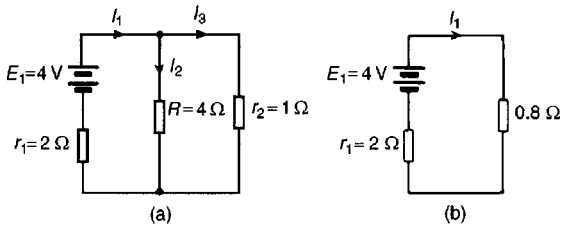
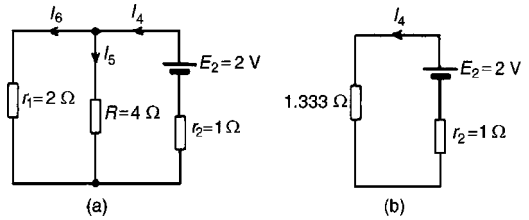
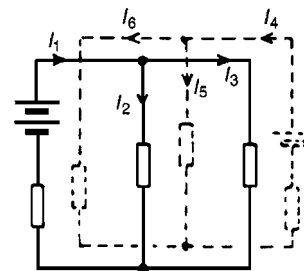

Figure 13.17
Figure 13.18
Figure 13.19
1. Redraw the original circuit with source  $E_2$  removed, being replaced by  $r_2$  only, as shown in Fig. 13.17(a)
2. Label the currents in each branch and their directions as shown in Fig. 13.17(a) and determine their values. (Note that the choice of current directions depends on the battery polarity, which, by convention is taken as flowing from the positive battery terminal as shown)
From the equivalent circuit of Fig. 13.17(b),
3. Redraw the original circuit with source  $E_1$  removed, being replaced by  $r_1$  only, as shown in Fig. 13.18(a)
4. Label the currents in each branch and their directions as shown in Fig. 13.18(a) and determine their values.
From the equivalent circuit of Fig. 13.18(b)
From Fig. 13.18(a),
5. Superimpose Fig. 13.18(a) on to Fig. 13.17(a) as shown in Fig. 13.19